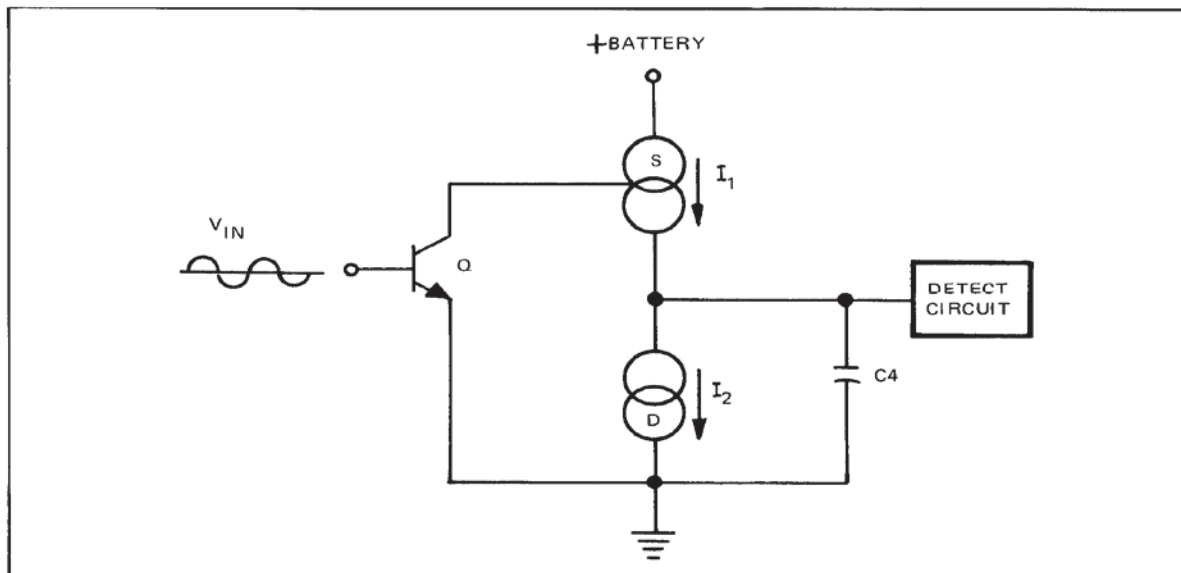

FIGURE 4-12 DETECTION CIRCUIT
- 3) The detection scheme depends indirectly on the amplitude of the signal. An integrative technique is employed to discriminate against unwanted noise spikes. The charging scheme is as shown in Figure 4-12. The integration capacitor,  $C$ , is constantly being discharged by current sink,  $D$ , and is charged when current source,  $S$ , is turned on by transistor  $Q$ . The transistor turns on when the signal is  $+V_{be}$ .  $I_1$  is 25 to 50 times larger than  $I_2$ , and a detect level of 1.2 volts is reached in approximately 3 pulses (with a strong return signal).  $I_2$  continuously discharges  $C_4$  so that noise spikes will not have a cumulative effect and cause a false detect.